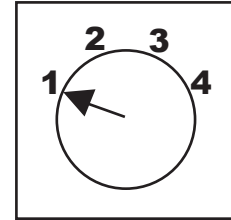

Figure 1 – 4 Voltage Setpoints
2. Before installing regulator, make sure setpoint switch on back of regulator is set for appropriate battery type. See Table 1 and Figure 1. Then install regulator on adapter plate.